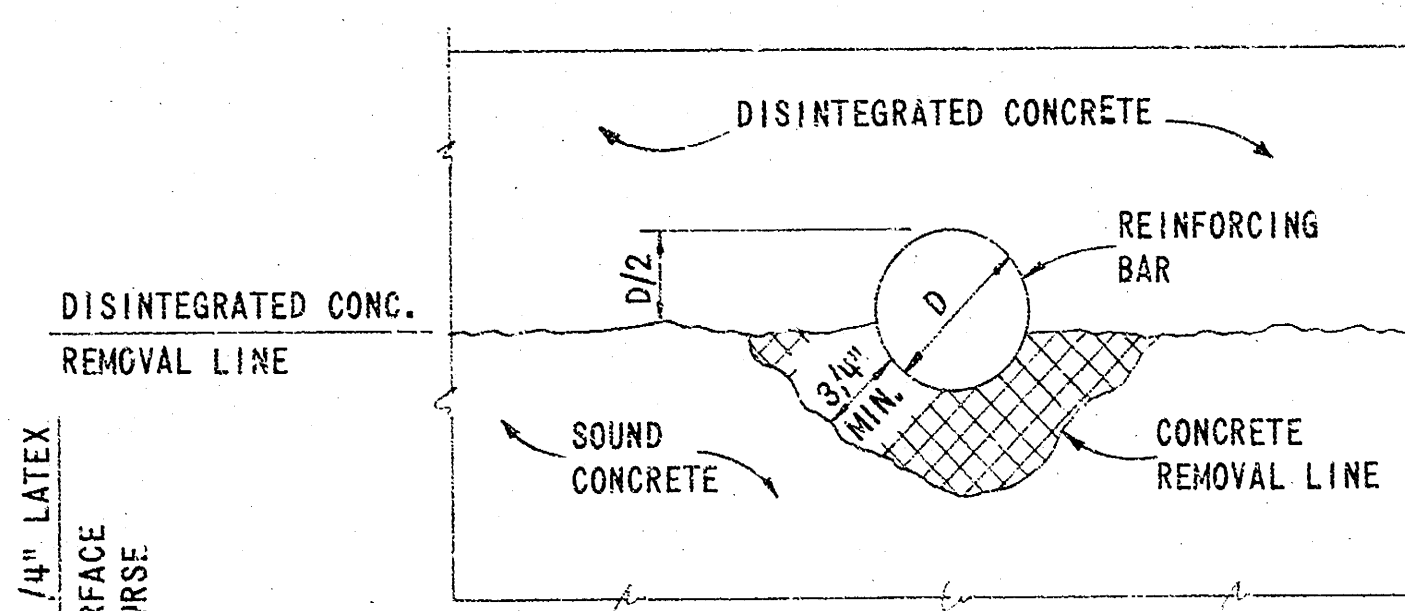
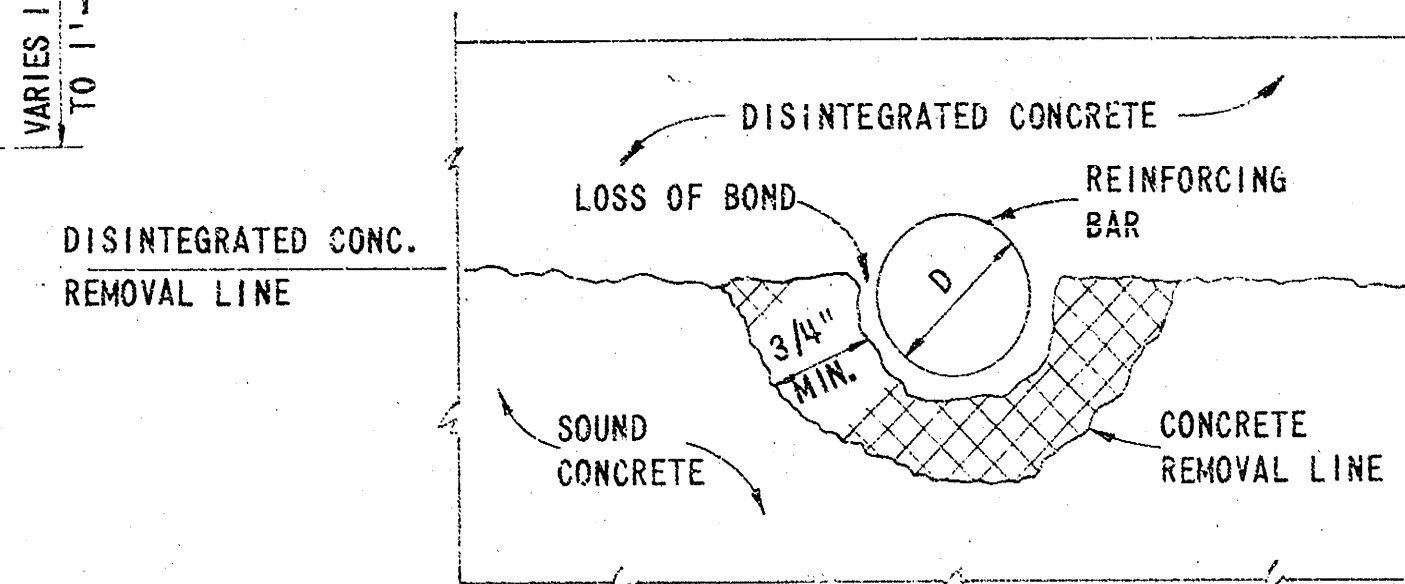

FIGURE 1
FIGURE 2
3. CHIPPING AND CLEANING AROUND REINFORCING: WHERE MORE THAN HALF THE DIAMETER OF THE STEEL IS EXPOSED (FIGURE 1) OR WHERE THE BOND BETWEEN EXISTING CONCRETE AND THE REINFORCING STEEL HAS BEEN DESTROYED (FIGURE 2) THE CONCRETE ADJACENT TO THE BAR SHALL BE REMOVED TO A DEPTH THAT WILL PERMIT CONCRETE TO BOND TO THE ENTIRE PERIPHERY OF THE BAR SO EXPOSED. A MINIMUM OF 3/4" CLEARANCE SHALL BE REQUIRED.